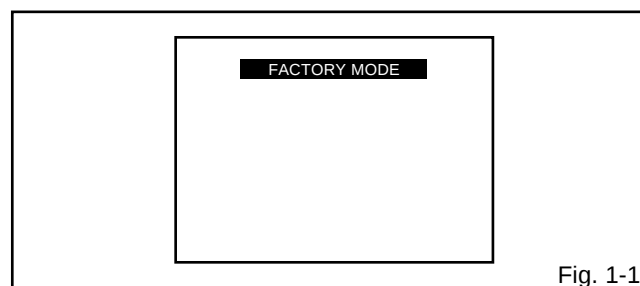

Fig. 1-1
1. Press the FACTORY button on the Jig Remocon. The adjustment mode screen will appear as shown **Fig. 1-1**.